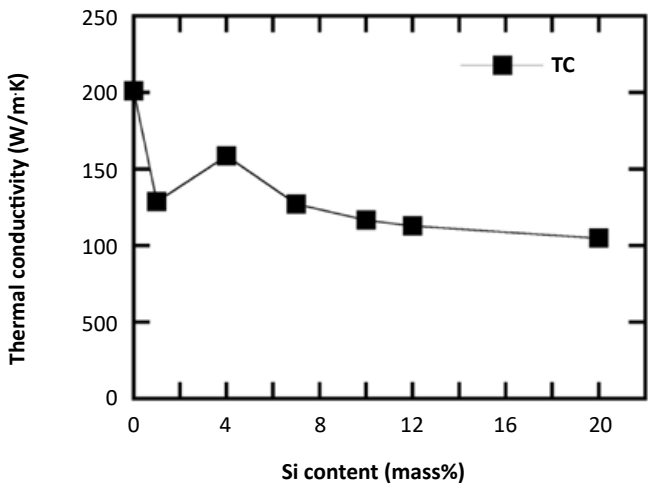

Fig. 5 Thermal conductivity [TC] of Al-xSi SLM specimens fabricated under the optimum laser scan parameters [1]
crystallised phase was  $\beta$ -Si instead of  $\alpha$ -Al. Since the primary crystallised  $\beta$ -Si phase is generally hard, the TS and PS values became higher and the EL value lower. Fig. 5 shows the thermal conductivity (TC) of the Al-xSi L-PBF specimens. The TC shows a similar trend to that of the EL in Fig. 4, i.e., the TC decreased from 200 W/m·K for the Al-0Si L-PBF specimen to 105 W/m·K for the Al-20Si L-PBF specimen. The decrease in the TC was mainly attributed to the increase in the solid-solute Si in the aluminium matrix. This is because the lattice strain, induced by the solid-solute Si, acted as scattering sites for conduction electrons, leading to an increase in the thermal resistivity.